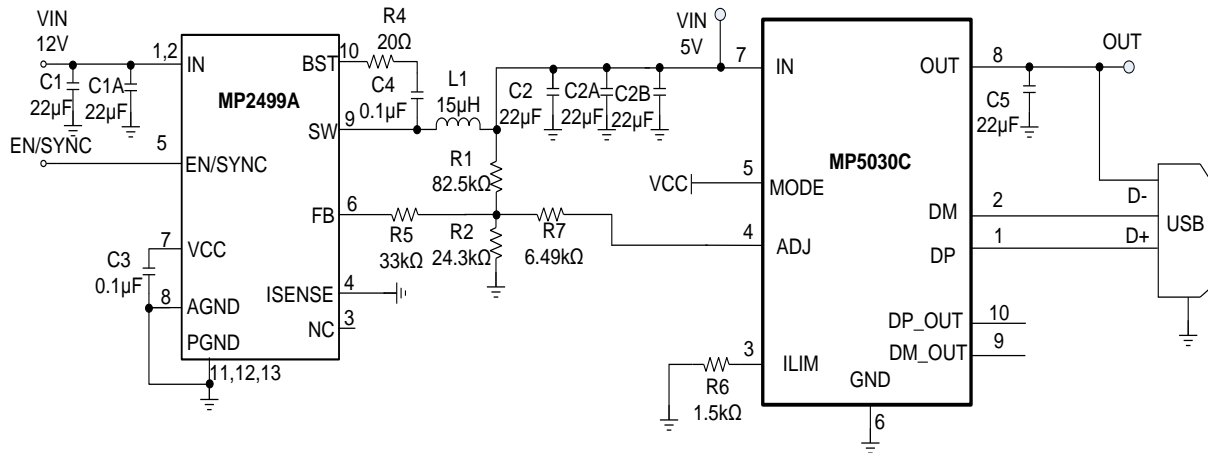

Figure 8: MP5030C + MP2499A for CLA Car Charger, DCP Mode w/ QC
- 8) The recommended layout is based on the Typical Application Circuit in Figure 8 through Figure 10.